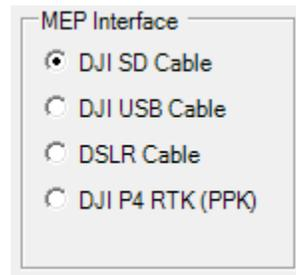

Figure 13 - MEP Interface
10. Select which method of MEP Interface you are using in the Loki MEP Interface section (Figure 13). If you are using an AirGon provided Inspire 2 Personality cable, select *DJI SD Cable*. If you are using an M200/210 or Phantom 4 Pro Personality cable, select *DJI USB Cable*. If you are using a DSLR camera on a custom drone configuration, select *DSLR Cable*. If you are using a Phantom 4 RTK, select *DJI P4 RTK (PPK)*.